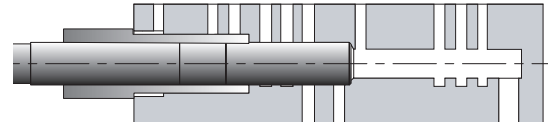

Figure 1
1. Insert the 1.750" pin (see Figure 1).